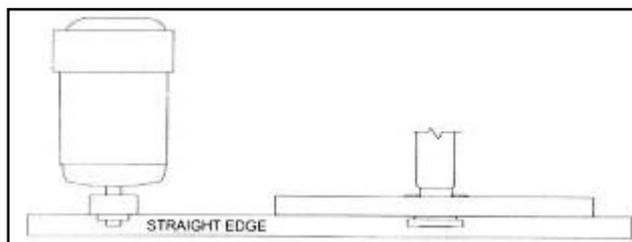

Fig. 5-1 Proper Pulley Alignment
- c) Verify that V – belts are properly aligned by checking pulley alignment. Place a straight edge across both pulley faces. The straight edge should make contact with pulleys in four places. See figure 5-1.